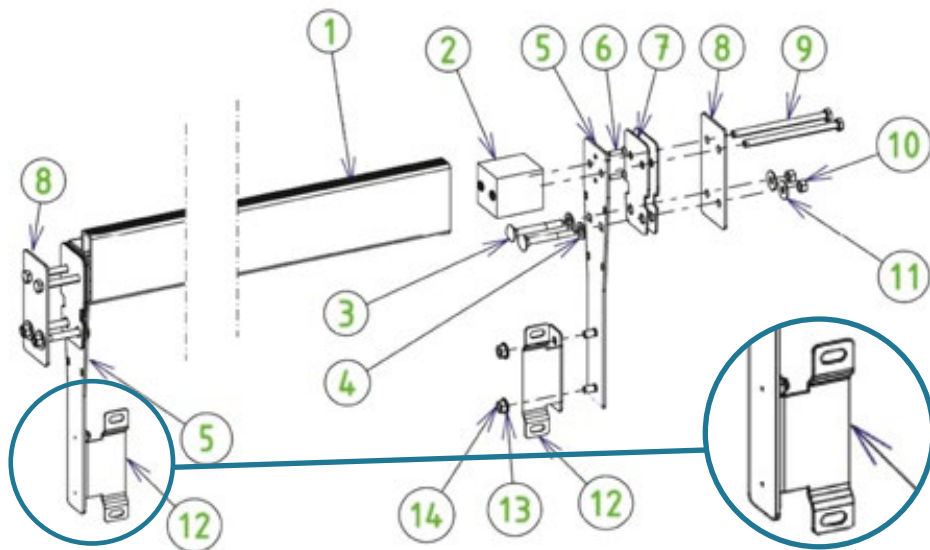

Figure 41 – Assembling and mounting the beam
The beam assembly steps are illustrated in *Figure 41*. The screws required for assembly are enclosed in bag Y. In this figure, the wooden wall is located between parts 7 and 8, and the liner is sandwiched between the two rubber gaskets (7).
Fasten the two pit wall mounting brackets (12) to the beam mounting plates (5) using four screws (14) and four 8 mm diameter A4 SS washers (13). The protruding parts of the pit wall mounting brackets (12) that feature a slot should be located on the same side of the beam (see the zoom in *Figure 41*).
Lastly, fasten the pit wall to the brackets (part 12 in Figure 41) using four 8 × 16 stove screws (7), four washers and four 8 mm diameter A4 SS nuts.